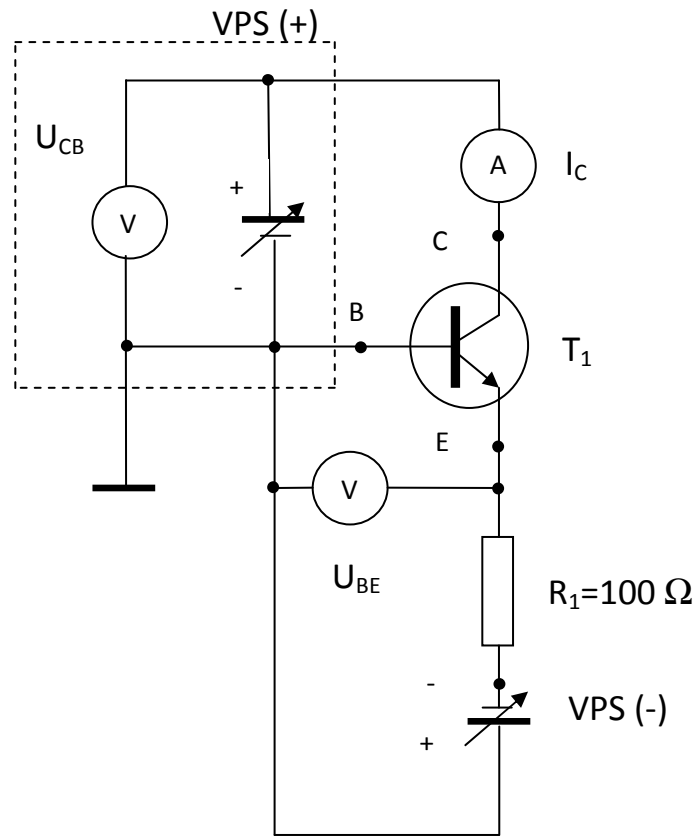

Fig. 3.3. Schematic of measurement setup utilized to determine current-voltage characteristics of emitter diode.
- 4.3. Construct the measurement setup from Fig.3.3. Use Agilent multimeter to measure the collector current. Use virtual power supply VPS(-) as a power supply polarizing base-emitter circuit. Elements values equal to: $R_1=100\text{ }\Omega$, transistor T1 (use the same transistor as in 4.1). Measure the current-voltage characteristics of the npn bipolar transistor emitter diode for fixed U_{BC} voltage within the **0-5 V** range (current limitation +20 mA), by noting I_C current value and U_{BE} voltage value (3 measurements per decade current change, from $1\text{ }\mu\text{A}$ to 10 mA). Values of I_C current are adjusted by setting the proper voltage at the output of VPS, in analogous way to measurements of semiconductor diode characteristic.